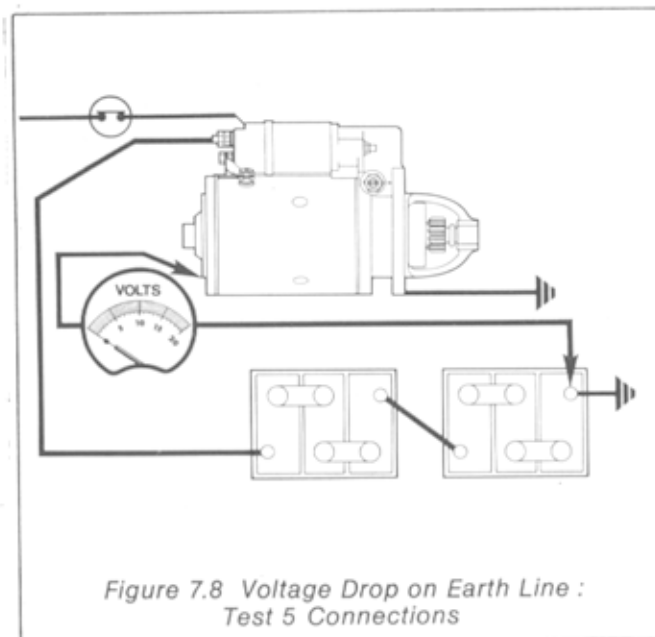

Figure 7.8 Voltage Drop on Earth Line : Test 5 Connections
**7.19** Connect the voltmeter between the battery earth terminal and the starter (commutator end bracket) as shown in Figure 7.8. Operate the starter switch and check that the voltmeter reads practically zero.